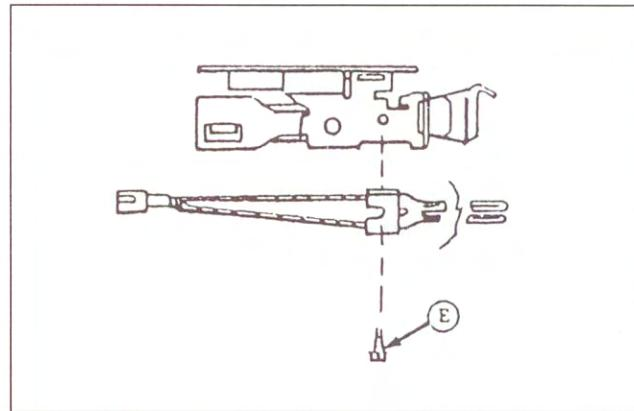

Figure 4.3.4
5. Remove screw (E) holding broken glo-bar to burner and replace glo-bar. (see Figure 4.3.4)